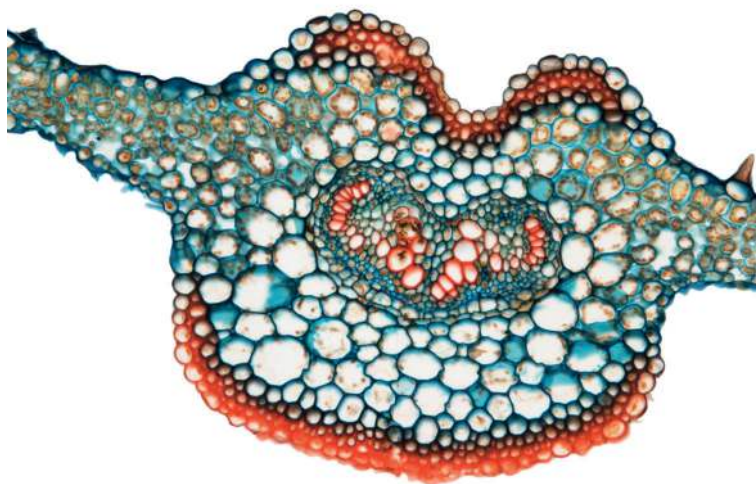
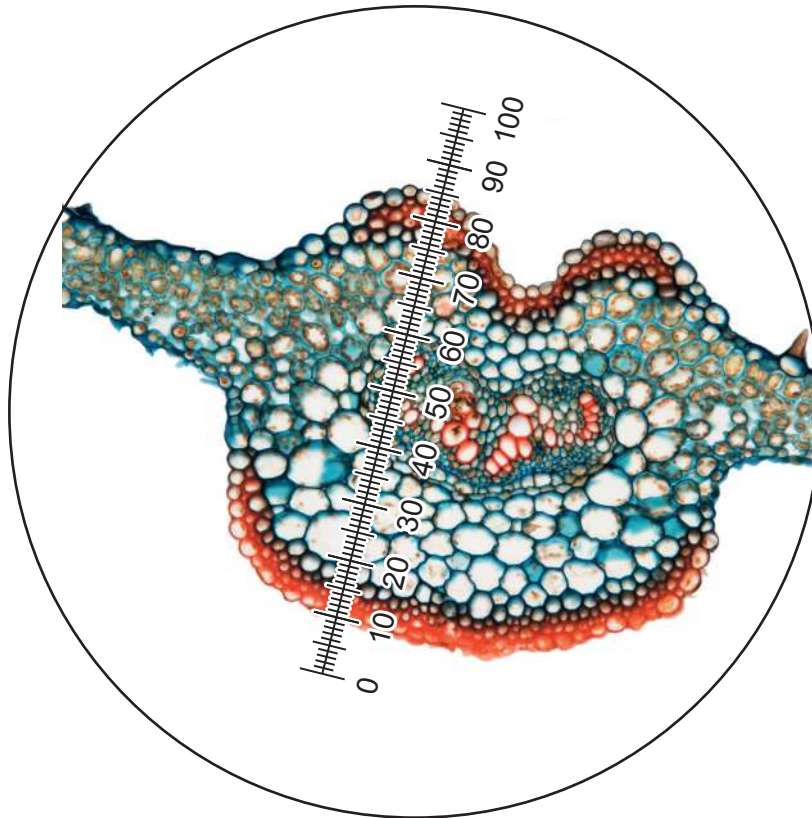

Fig. 2.2
Fig. 2.4
(b) Fig. 2.2 is a photomicrograph of a transverse section through a different leaf from **J1**.
- (i) Identify **three** observable differences, other than colour, between the section on **J1** and the section in Fig. 2.2.
- (iii) Fig. 2.4 shows the same eyepiece graticule and same lenses being used to measure the width of the section shown in Fig. 2.2.
Use your answer in **(b)(ii)** to calculate the actual width of the section shown in Fig. 2.4.